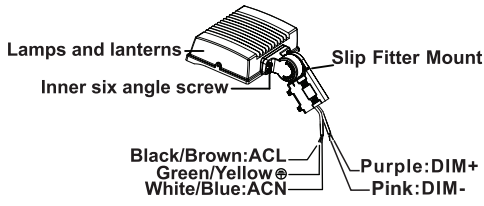

Fig. 10
- 2.) Connect the input wires coming out of the mounting bracket to the power supply wires (**Fig. 10**). Place the wires into the pole and place the mount onto the pole. Secure the mount onto the pole by tightening the locking bolts.